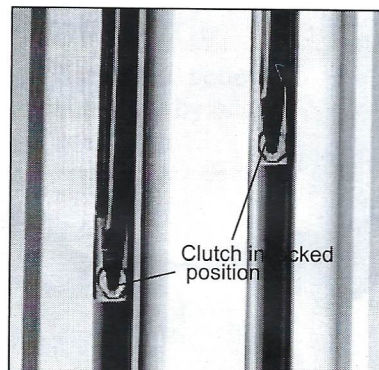
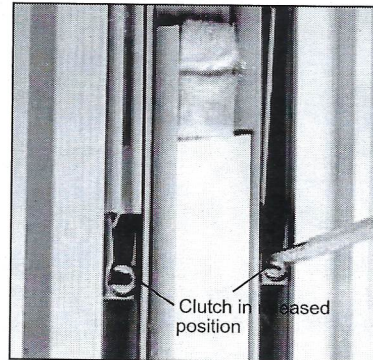

Figure 1
Figure 2
2. Once the sash have been removed and the clutches are in a locked position, lightly mark the clutch heights on the jamb with a pencil. See figure 1.
3. Use a flathead screwdriver to unlock the clutches, grip the screwdriver firmly with both hands and rotate the clutch 1/4 turn and slowly raise the clutches to the bottom of the balance tubes. See figure 2.
5. Hold the screwdriver firmly and slide the clutch assemblies down the jamb carrier to the pencil marks. See figure 1 and figure 2. Rotate the balance clutch cam to the open locked position (cam opening up). Release the screwdriver carefully from the clutch assembly (it must lock in place or damage will occur). Compare clutch height from the sill for the sash affected. They must be within 1/8" (3) of each other or damage may occur when sash are reinstalled. Adjust height as needed.